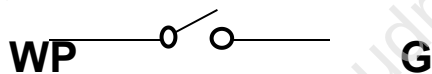
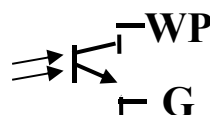

Figure 1
Figure 2
- 1) WP input terminal can use water switch or fan switch's test terminal, please pay attention that WP is through optocoupler connected with ground (G) as (figure2), not as (figure 1).